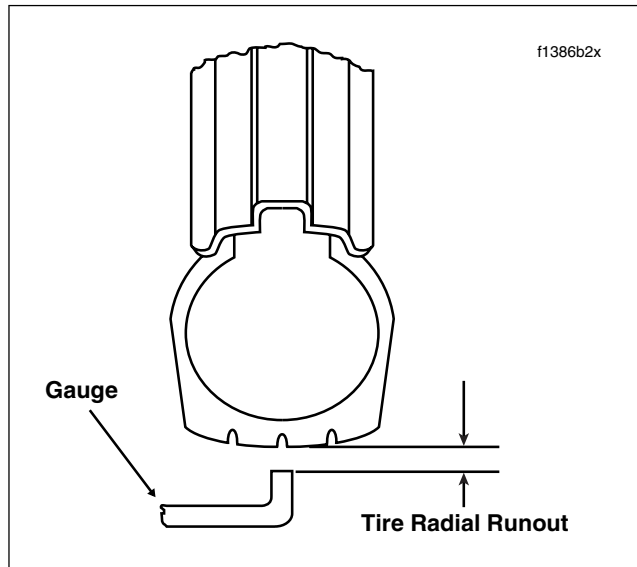

Figure 2-35. Checking Tire Radial Runout
1. Check runout by turning wheel on axle, measuring amount of radial displacement from a fixed point near the tire. See Figure 2-35.